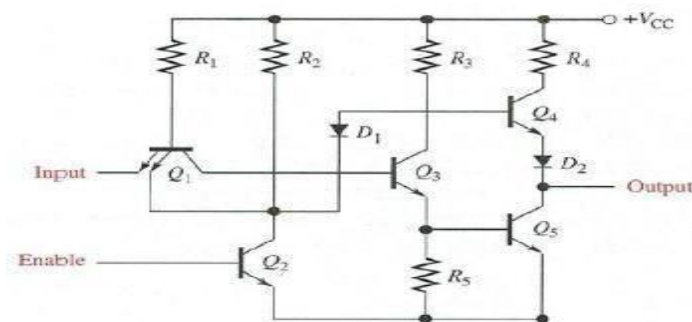

Fig 4.2: Tristate TTL Gate
An open collector inverter circuit is shown in the fig 6.2. In the single-input (inverter) circuit, shown in fig 4.2 grounding the input resulted in an output that assumed the "high" (1) state. In the case of the open-collector output configuration, this "high" state was simply "floating." Allowing the input to float (or be connected to Vcc) resulted in the output becoming grounded, which is the "low" or 0 state. Thus, a 1 in resulted in a 0 out, and vice versa. Since this circuit bears so much resemblance to the simple inverter circuit, the only difference being a second input terminal connected in the same way to the base of transistor Q2, we can say that each of the inputs will have the same effect on the output. Namely, if either of the inputs is grounded, transistor Q2 will be forced into a condition of cutoff, thus turning Q3 off and floating the output (output goes "high"). The following series of illustrations shows this for three input states (00, 01, and 10):